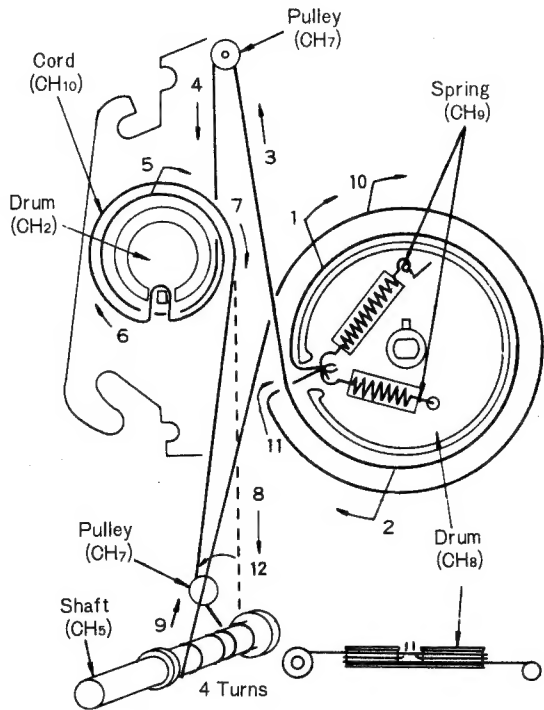

Fig. 5
- Set each dial drum at the position, as shown in fig. 5.
- Arrows (1~12) indicate correct order and direction of dial cord installation, as shown in fig. 5.